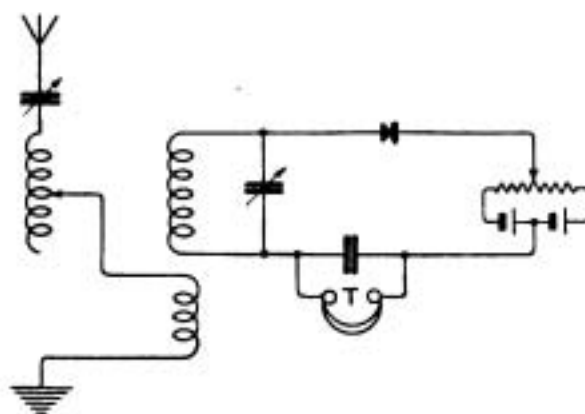

Fig. 8.
L.O.W. (London).—(1) The sample of wire sent is No. 40.
(2) We cannot give the reason for this effect, which is unusual. It may possibly be due to a thin film of oxide on the cat-whisker, which is temporarily broken down by the stronger buzzer signals.
(3) This effect (sounds in a valve circuit on first switching on, disappearing after half a minute working) is also unusual. It may be due to internal actions in either the cells or the valve: we cannot say which without making tests. In any case the trouble appears fairly harmless.
R.F. (Cults).—(1) No, connect as in diagram, Fig. 8.